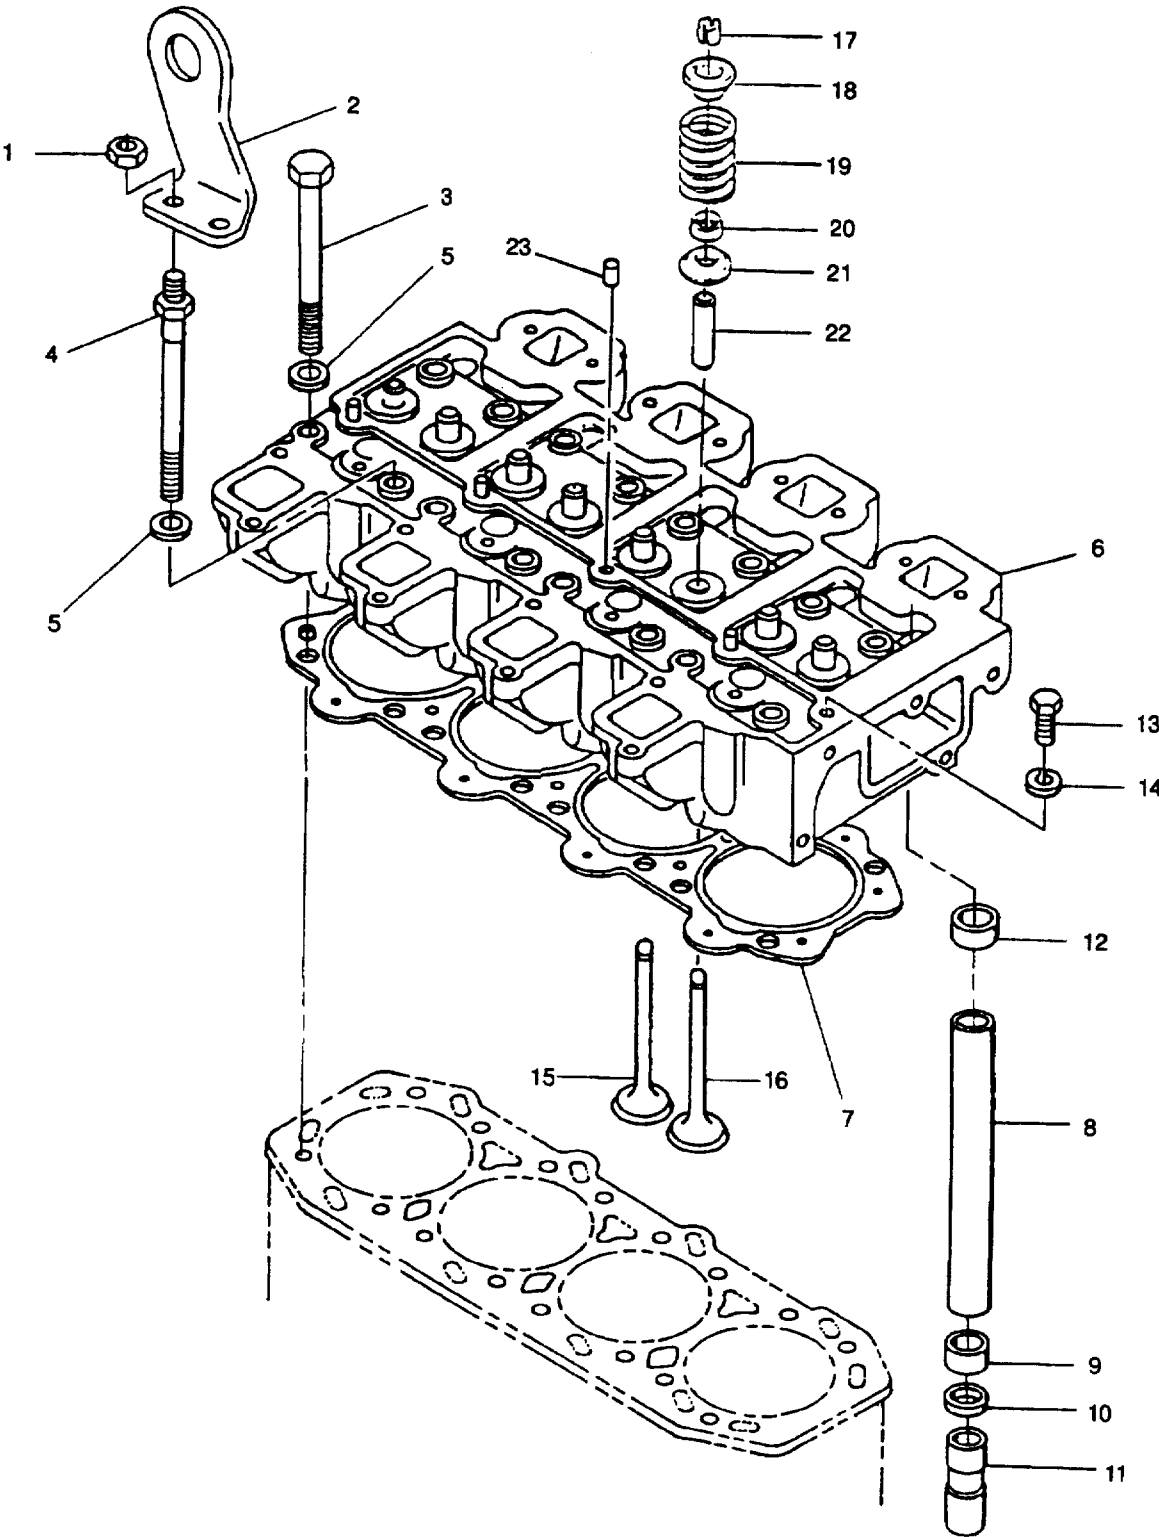
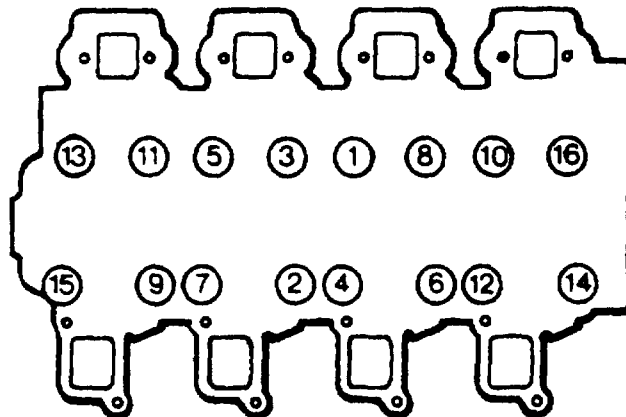

FIGURE 3-28. Cylinder Head Assembly
FIGURE 3-31. Cylinder Head Bolt Tightening Sequence
- e. Remove four nuts (1, FIGURE 3-28) securing lifting eyes (2); remove lifting eyes (2).
- i. Lift off cylinder head (6, FIGURE 3-28) and gasket (7). Discard gasket.
- a. Remove pushrod tubes (8, FIGURE 3-28), seals (9), washers (10) and tappets (11) from crankcase.
- b. Remove seals (12) from cylinder head (6). Discard seals (12).
- c. If necessary, remove capscrew (13) and washer (14).
- (1) Push down on tool until collets (17) can be removed.
- (2) Gently release tool. Remove carrier (18), spring (19), seal (20), and plate (21). Discard seal.
- (3) Turn cylinder head (6) over and remove valve (15 or 16).
- a. Using standard valve spring compressor tool install each valve (15 or 16, FIGURE 3-28) as follows:
- (1) Lightly lubricate valve stem with engine lubricating oil (MIL-L-2104) and insert valve (15 or 16).
- (2) Lay head (6), upright on bench and place a block of wood under head of valve being replaced.
- (3) Place valve spring plate (21) in position.
- (4) Install a new valve stem seal (20) to valve guide (22) taking care to ensure it is correctly located over valve guide and is not distorted.
- (5) Install valve spring (19) and spring carrier (18).
- (6) Push down on tool until collets (17) can be installed in position with their tops slightly sunk in valve spring carrier (18).
- (7) Gently release tool and check that collets (17) are correctly located.
- b. If removed, install capscrew (13), washer (14), and breather tubes (23).
- a. Ensure cylinder head (6, FIGURE 3-28) and crankcase mating surfaces are clean and dry.
- b. Install hydraulic tappets (11) (solid end first) and new washers (10) in crankcase.
**Seal (12) has a lip on one side and seal (9) has no lip.**
- c. Install new pushrod seal (12) in cylinder head (6) and new pushrod seal (9) in crankcase.
- k. Tighten all sixteen bolts in three stages and in sequence shown in FIGURE 3-31.
- (1) First tighten to 6.2 ft-lbs (8.4 Nm).
- (2) Second tighten to 38.5 ft-lbs (52.2 Nm).
- (3) Final tighten to 66.6 ft-lbs (90.3 Nm).
- n. Position lifting eyes (2, FIGURE 3-28) on bolts (4) and secure with nuts (1).